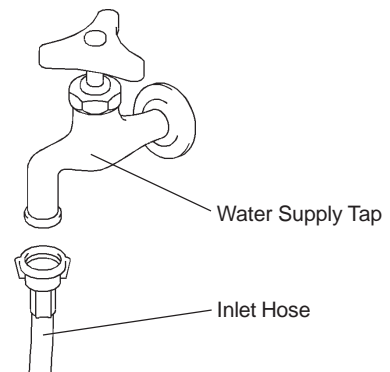

Fig. 9
3) Attach the other end of inlet hose to the water tap (Fig. 9), noting washer is correctly positioned before hand tightening as above.